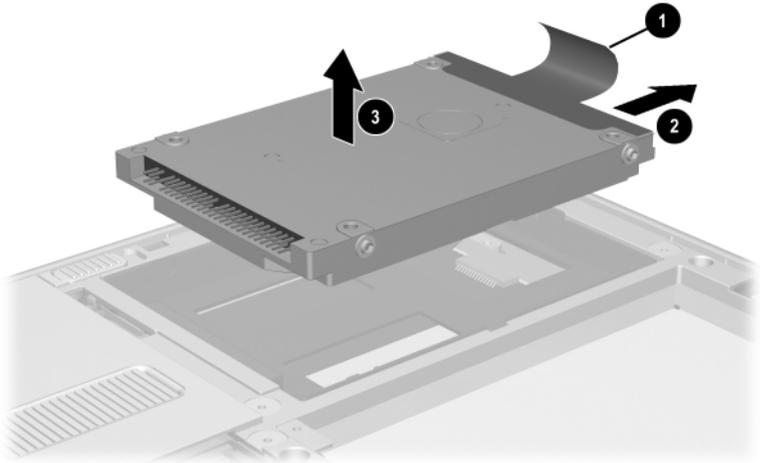

Figure 5-7. Removing the Hard Drive
- e. Use the tab ❶ on the right side of the hard drive to slide the drive to the right ❷ and disconnect it from the system board (Figure 5-7).
- f. Remove the hard drive from the tablet ❸.